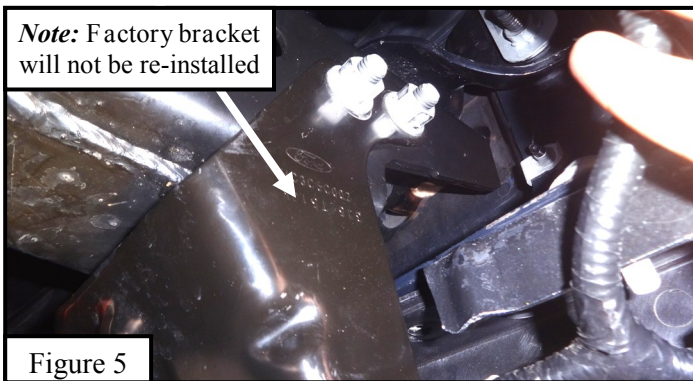
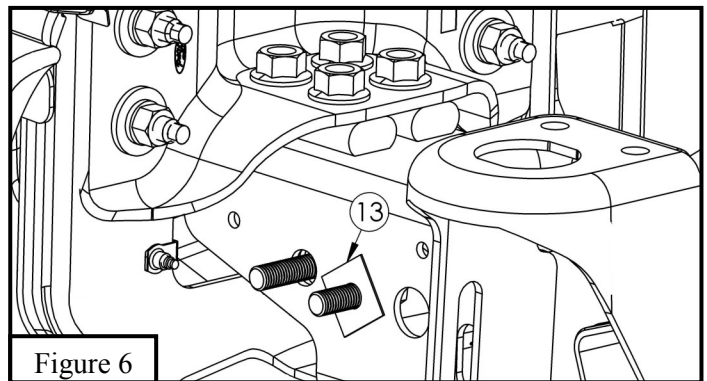

Figure 5
Figure 6
- From underneath the vehicle, remove the factory bracket while making sure to keep the factory bolt plate from falling into the frame channel. Refer to Figure 5. Note: If factory M12 bolt plate falls into vehicle frame use the provided M12 fish wire to position back into its original location. Use the provided M12 plastic retainer to prevent the factory bolt plate from falling into vehicle frame. See Figure 6.